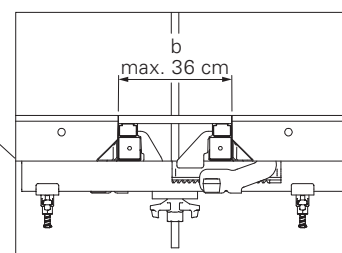

Fig. C6.02b
When anchoring, ensure that the tie forces are transferred centrally through the Compensation Waler MAR 85 (21) to the adjacent panels. (Fig. C6.02b)